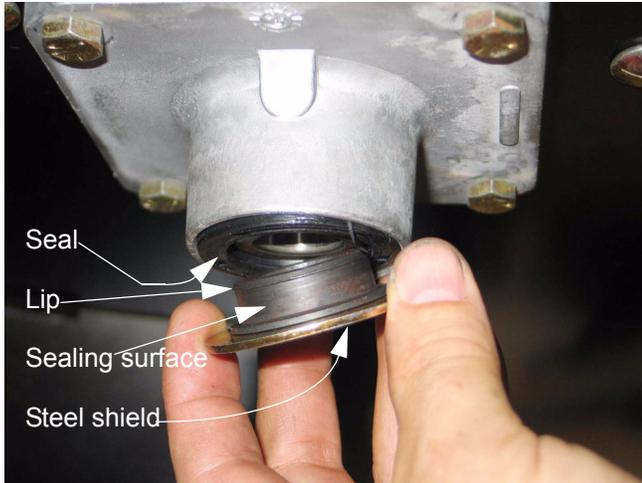

Figure 5.8
5.8. The steel shields are identical top and bottom, and are easily removable. They do have barbed lips that may damage the seal when removed. they should not be removed unless the seals are to be replaced. See Figure 5.8.